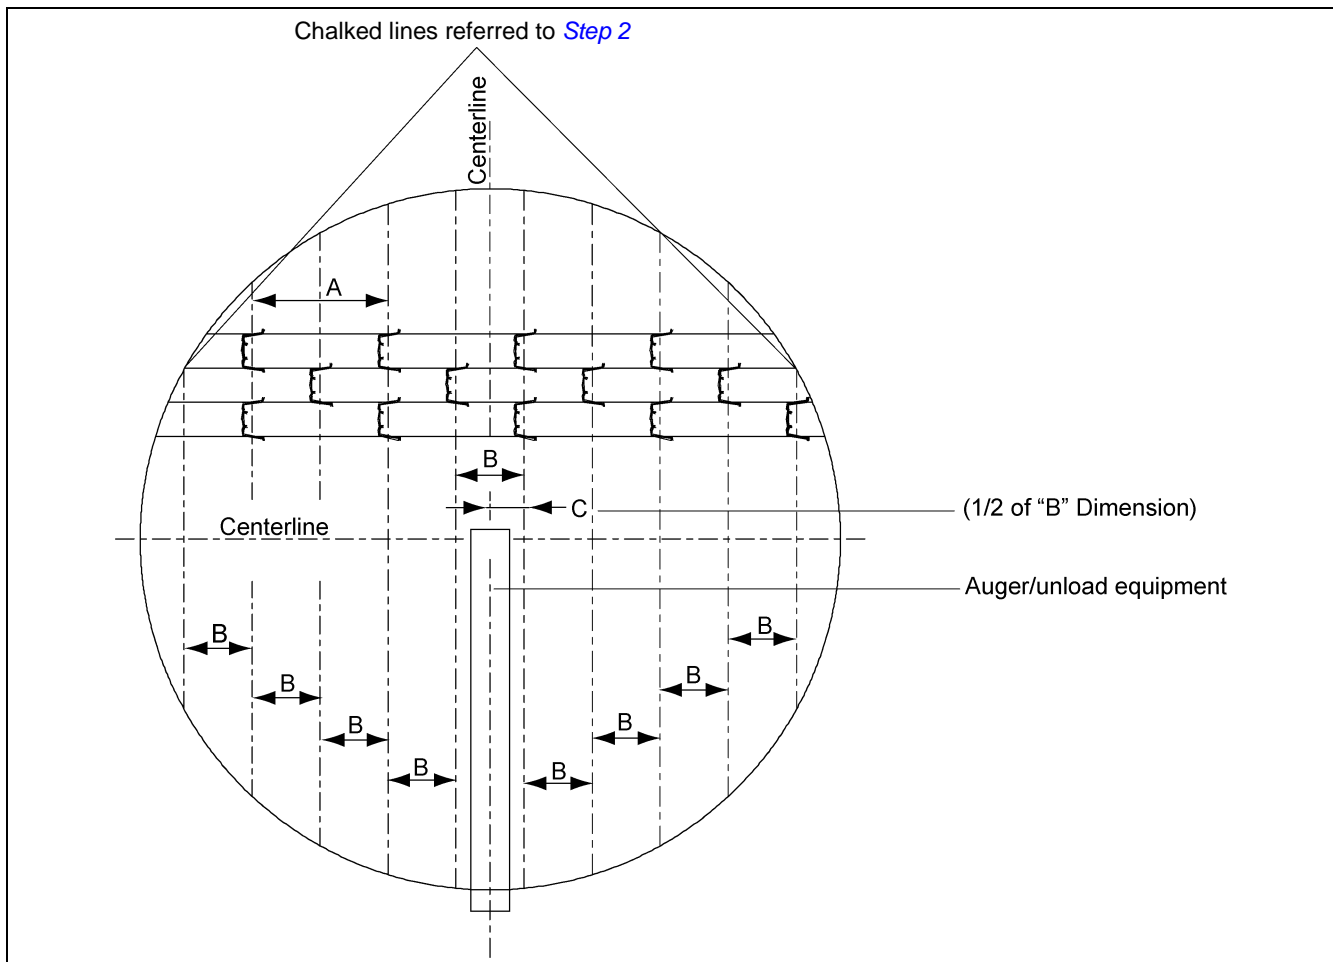

Figure 4B
Using the GSI recommended method for full floor installation should save construction time and eliminate the problem of improper installation which could invalidate your warranty. Note the following dimensions as shown in Figure 4B.
1. Layout centerlines of tank. Make sure one centerline is in line with the direction of the flooring planks while the other centerline is perpendicular with the flooring planks. See Figure 4B.
2. From the centerline that is perpendicular to the flooring planks, measure the distance of “C” Dimension and mark a chalk line. See Figure 4B.
3. From the line chalked in the previous step, measure over the distance of “B” Dimension and chalk another line. Repeat this procedure across the bin until reaching the wall in both directions. When completed, there should be a set of parallel lines (perpendicular to the floor planks) with “B” Dimension distance between each line. See Figure 4B.